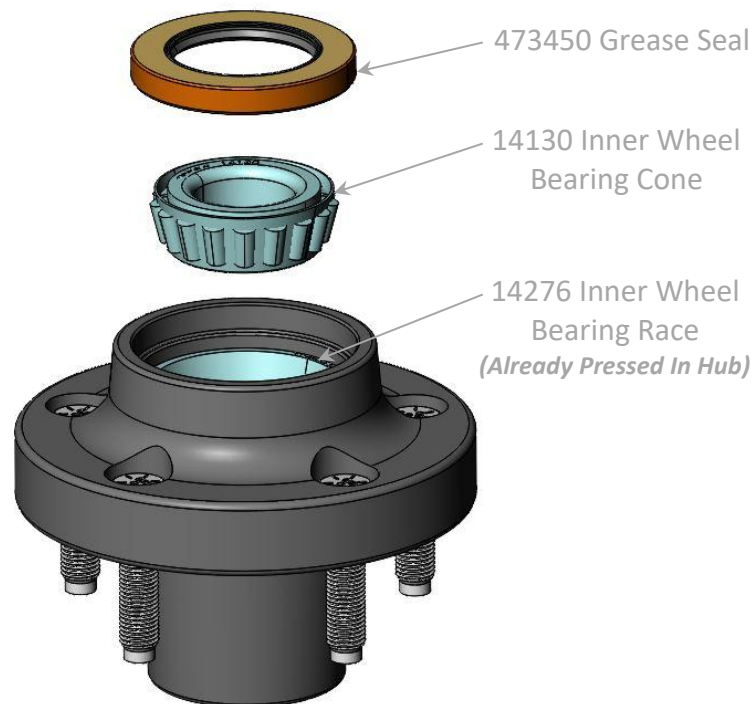

Figure 2 – Inner Wheel Bearing Installation
4. The wheel bearings can now be packed and installed. We recommend the use of Lucas Oil "Red-N-Tacky" Grease (**Available At Master Power Brakes P/N: ACNLG12**) or other high quality NLGI rated wheel bearing grease. Once the inner bearing is installed, tap the inner seal in at this point. Figures 2 below shows the bearing and seal being installed.